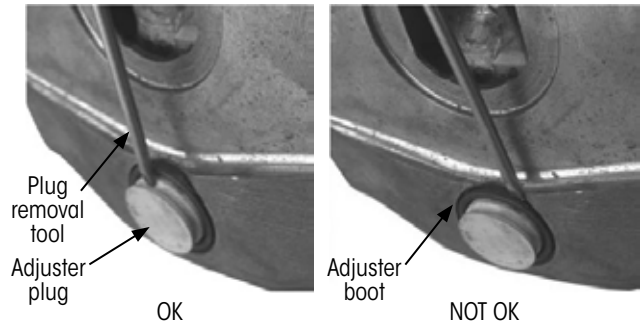

Figure 5: Removing adjuster plug
1. **Position** the plug removal tool at the adjuster plug when removing it (Figure 5).